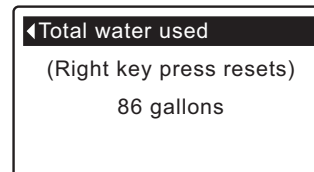

FIG. 64
6. The **Total water used** screen (See Figure 64) shows the volume of water used since it was last reset (it works like the trip odometer in a car). To reset the value to 0, press the RIGHT (►) button while this screen is displayed.